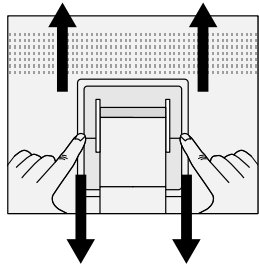

Figure S.2
4. Press the “▼” portion with your index finger and at the same time slide the lower stand cover. (**Figure S.2**)